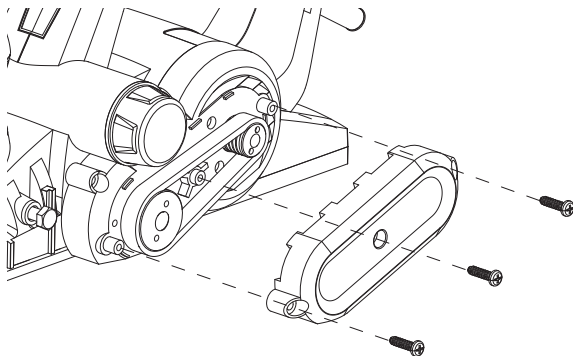

Figure 11-1
8. REPLACING A DRIVE BELT (SEE FIG 11-1 & 11-2)